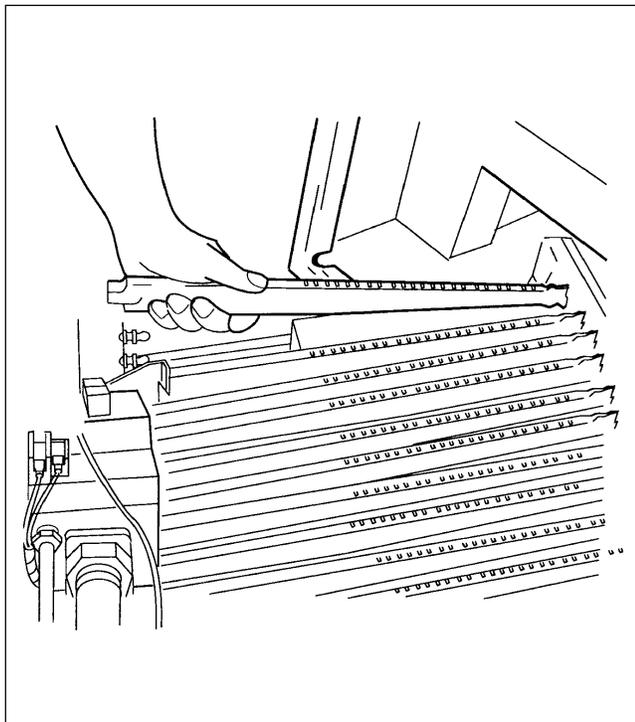

Figure 27. Gas burner removal.
6. Grasp the burner firmly, and push it away from the manifold until it is clear of the orifice. Slide it out of the burner tray (see Fig. 27).